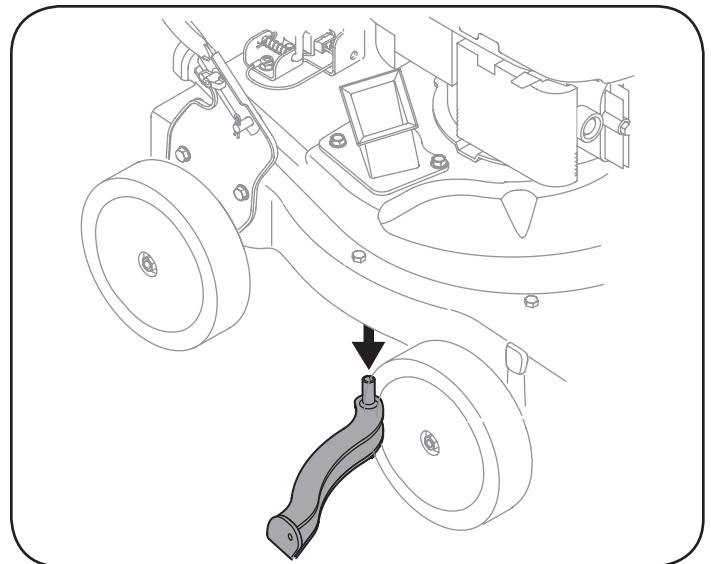

Figure 15
6. Remove and clean the screen by scraping or washing with water. See Figure 15.